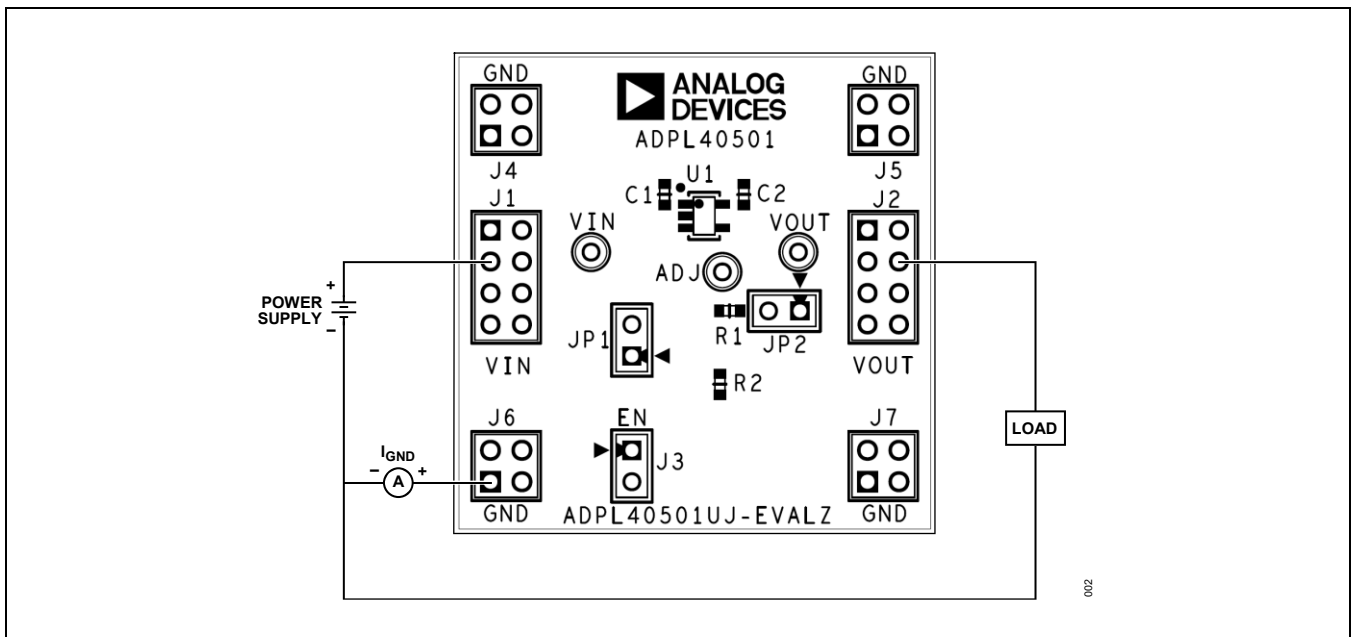

Figure 2. Ground Current Measurement Setup
6. To monitor the operating supply current, connect the evaluation board as shown in Figure 2. It is highly recommended to use a resistor as the load for this parameter. Because the expected value is small, ensure that there are no other connections on the evaluation board.